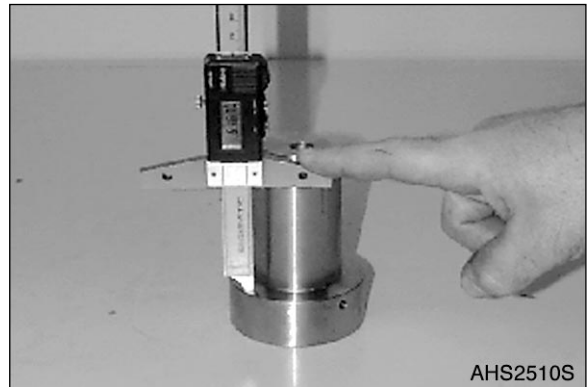

Figure 291
1. Adjust axial play of the countershaft gear bearing 0.0 - 0.05 mm (0.0 - 0.0020 in) (Figure 291 - Example D2).